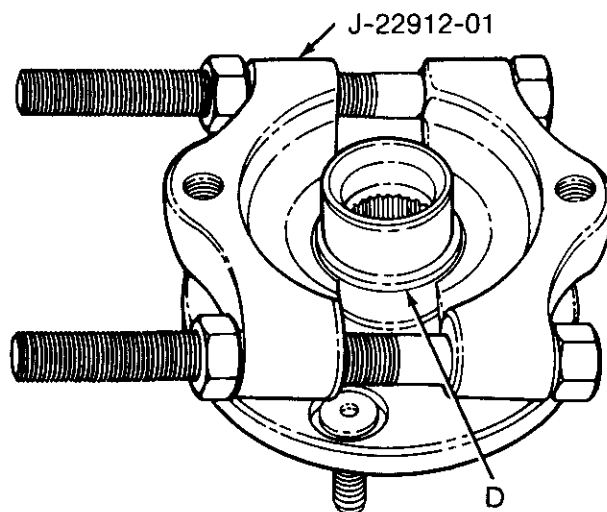

Fig. 6
- Install remover tool J-22912-01 on the inner bearing (D) (Fig. 6).